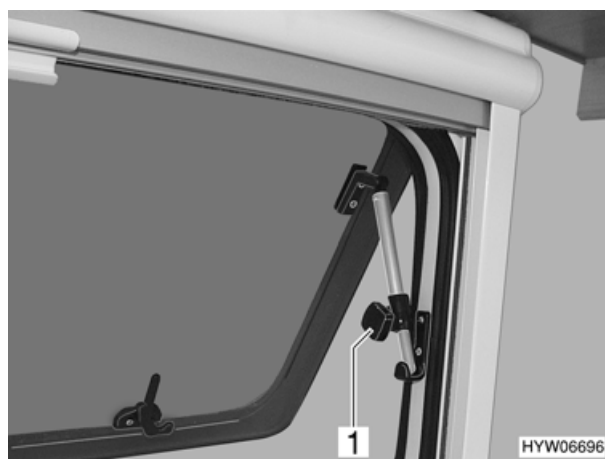

Fig. 19 Hinged window, clamp fitting
- Open the hinged window until the required position has been reached and use knurled knob (Fig. 19,1) to secure in position.
- Turn knurled knob (Fig. 19,1) until the latch is released.